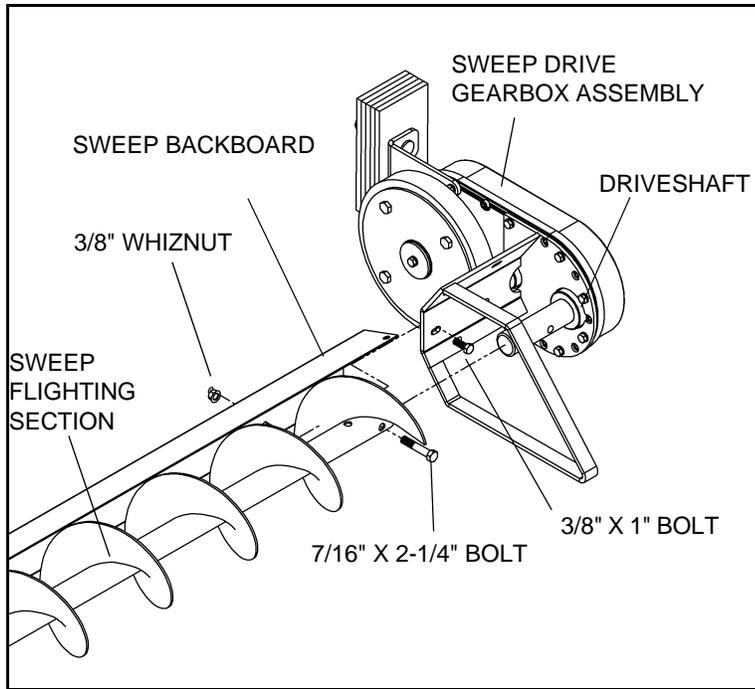

Figure 3.19
1. See Figure 3.19 to install sweep drive onto the end of sweep sections. The sweep backboard attaches onto the back of the sweep gearbox mount plate (as shown) using four 3/8" x 1" bolts and whiznuts. Adjust for best fit and tighten securely.